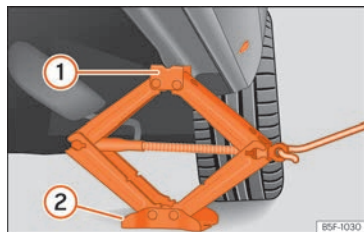

Fig. 38 Cross member: positioning the jack on the vehicle.
- Turn the jack* crank handle, located below the strut support point, to raise it until the tab ① » Fig. 38 is below the housing provided.
- Align the jack* so that tab ① "grips" onto the housing provided on the strut and the mobile base ② is resting on the ground. The base plate ② should fall vertically with respect to the support point ①.